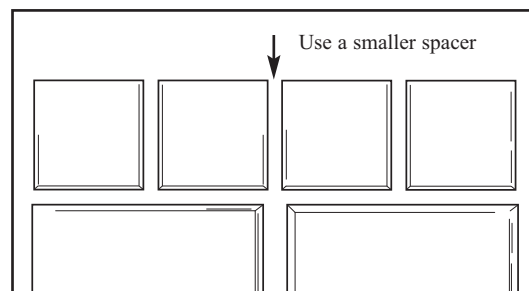

Fig. 20 - Separated tiles will have one additional grout line.
- When installing custom installations that combine 16" x 16" formats with 8" x 8" formats, it will be necessary to use different size spacers to maintain straight joints. Tiles that have been scored and separated will have one additional grout line that needs to be calculated in the overall size (Fig. 20). To compensate for the additional grout joint, the separated tiles should be installed with a spacer that is one-half the thickness of the spacer used for the whole tiles (Fig. 21). The joints can be off-set on border tiles as an alternative to using different spacer sizes (Fig. 22).